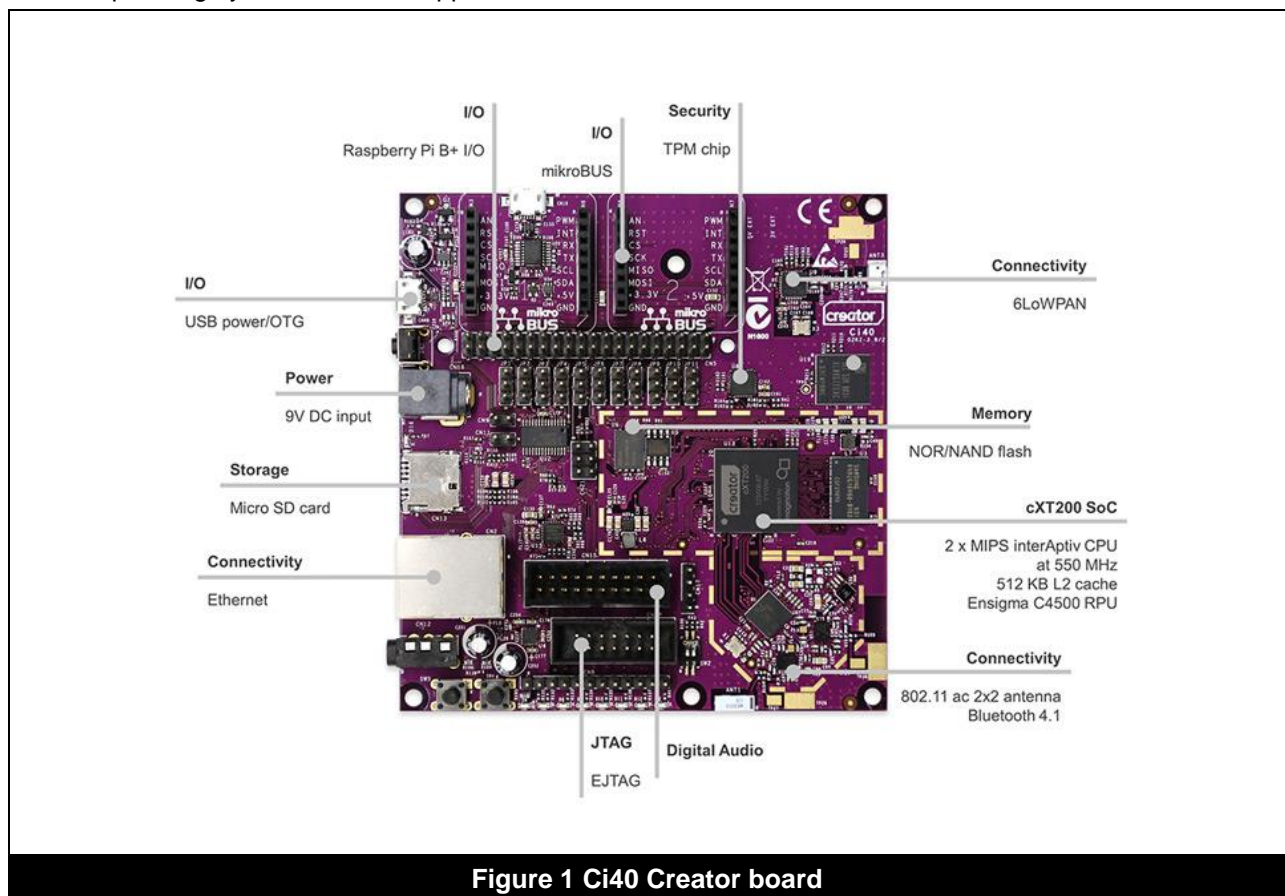

Figure 1 Ci40 Creator board
1. First, power-on the board, by connecting the AC-DC adapter (9V) to the power input shown in Figure 1.